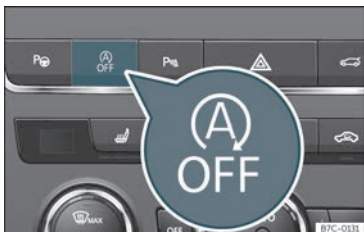

Fig. 199 Centre console: Start-stop system button.
- To manually switch on/off the Start-Stop system, press the  button >>> **Fig. 199**.